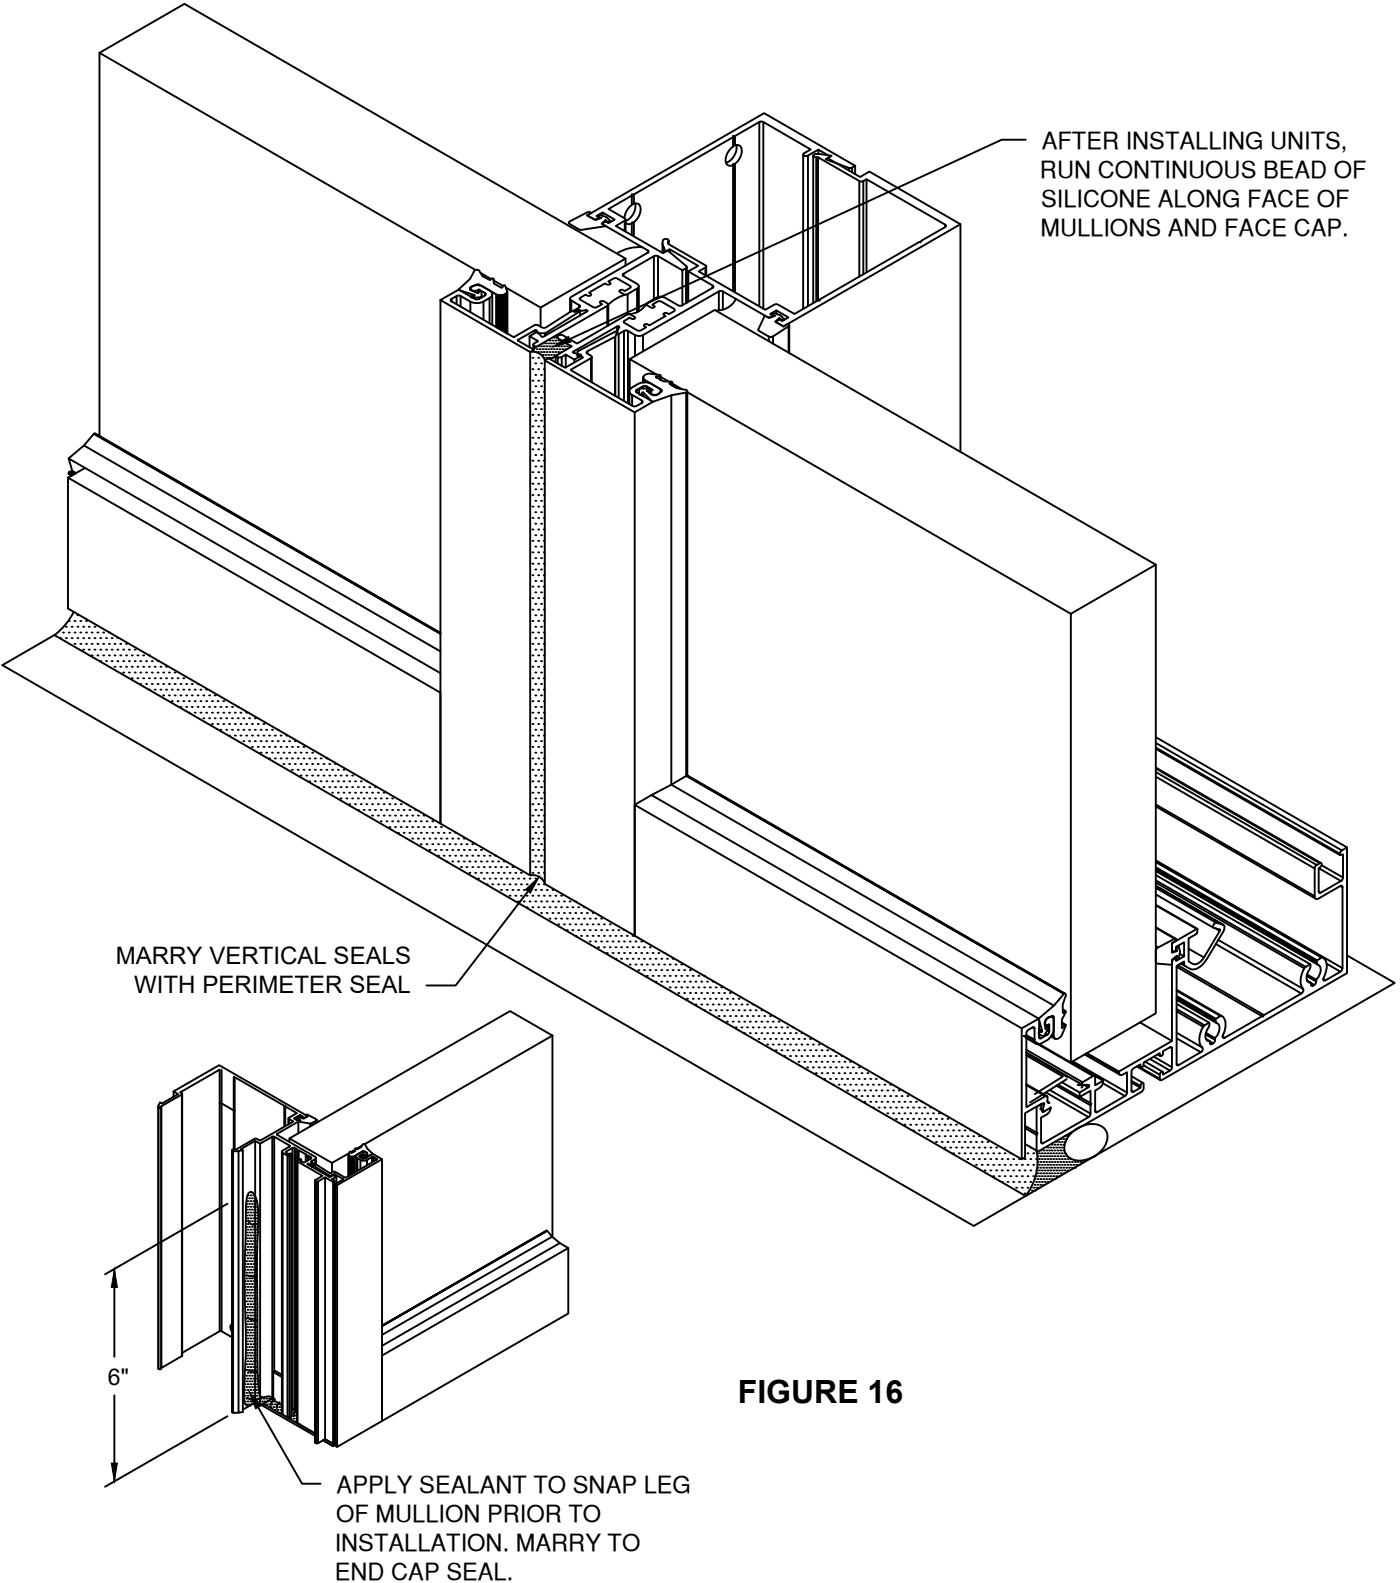

FIGURE 16
- 4.4 When using captured verticals (BRW-500 & BRW-501), prior to installing next unit run a bead of sealant along outer snap leg for 6". Then once units have been installed and anchored sealant will be ran between each unit along face of vertical mullions. This seal will be married into the perimeter seal and end cap seals. See FIGURE 16, page 17.